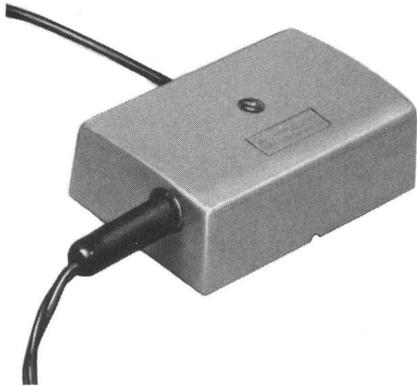

Fig. 22—30B Voice Coupler (formerly 30A [MD] VC and F57948 [MD] KTU)
**2.22 30B Voice Coupler**—Approximately 4-3/4 inches long, 2-3/4 inches wide, and 2 inches high and is used to provide 2-wire connection of customer-provided voice transmitting and/or receiving equipment to Bell System lines using a telephone set equipped with an exclusion key. Mounts on any flat surface. (See Fig. 22.)